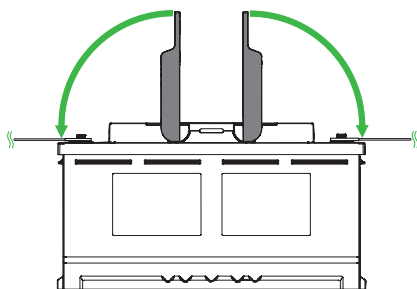

Figure 8. Place the handle covers the terminals
5. Place the handle covers over the terminals. (Figure 8)